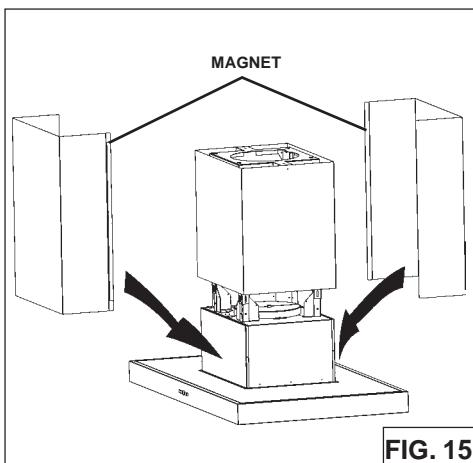

FIG. 15
1. Attached the **two lower flue** parts to the support frame by overlapping the lateral magnets (Fig.15).